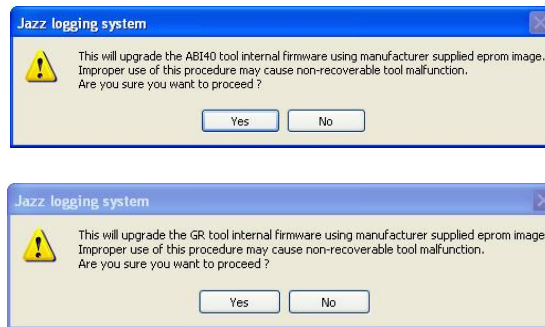

Figure 5-8 Warning Message during firmware upload
- A message corresponding to the tool sensor to be upgraded will appear (Figure 5-8). Click **Yes** to validate your choice.